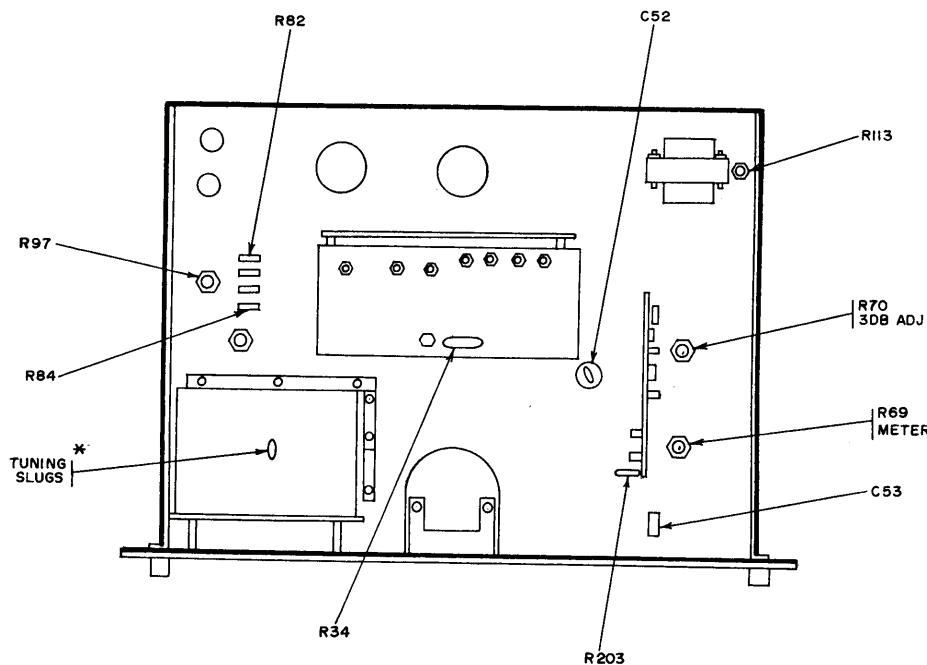
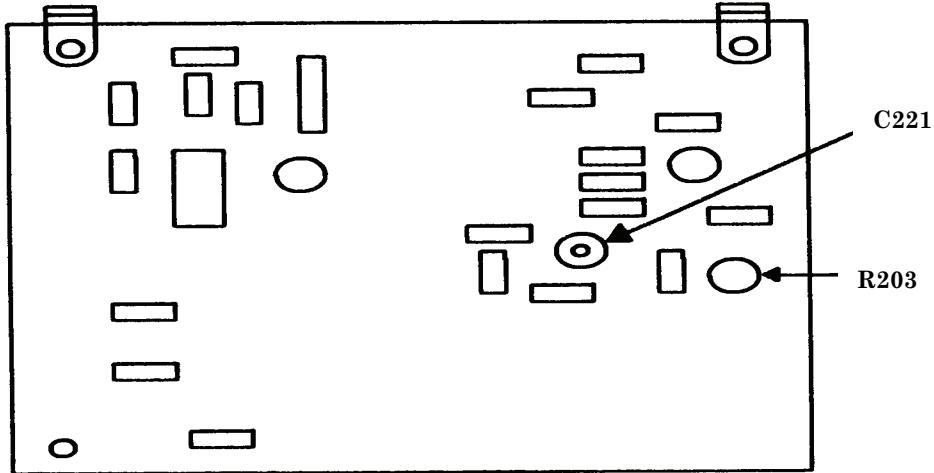

Figure 1. Test instrument, version A - top view.
Figure 2. Pulse generator assembly - adjustment locations.
a. Model Variations. There are two versions of SG-366A/U. The adjustments for version A are located on top view of the chassis. Version B and model 5070B are the same for calibration purposes, and adjustments are located on both top and bottom views. Some early models of model 5070B show different adjustment references for the same locations. These reference designations are not shown on the figures. Some adjustments for version B are located on the power supply assembly but are not related to the power supply function. Where adjustment locations are the same for both versions, they will be shown on version A, figure 1.
b. Adjustments to be reported are designated (R) at the end of the sentence in which they appear. When adjustments are in tables, the (R) follows the designated adjustment. Report only those adjustments made and designated with (R).
- (1) Adjust appropriate tuning slugs (fig. 1) as listed in (a) through (e) below:
- (1) Position controls as listed in (a) through (e) below:
- (2) Turn **RATE ADJ** control fully ccw. If frequency counter does not indicate 50 Hz or less, perform **b** below.
- (3) Set **PULSE RATE** switch to 500-5KC and **RATE ADJ** control fully cw. If frequency counter does not indicate 5 kHz or more, perform **b** below.
b. Adjustments. Adjust R203 (fig. 1 or 2) for 5 kHz indication on frequency counter (R).
- (1) Set **PULSE WIDTH** switch to **.1-1** and **WIDTH ADJ** control fully ccw.
- (2) Measure pulse width on frequency counter. If pulse width is not 0.1 μ s or less, perform **b** below.
- (3) Set **PULSE WIDTH** switch to **10-100** and **WIDTH ADJ** control fully cw.
- (4) Measure pulse width. If frequency counter does not indicate 100 μ s or more, perform **b** below.
b. Adjustments. Adjust C53 (fig. 1) for best in-tolerance condition in **a** (2) and (4) above (R).
- (1) Adjust R97 (fig. 1) or R14 (fig. 3) until oscilloscope indicates at least 1.5 V p-p (R).
- (2) Adjust R84 (fig. 1) or R21 (fig. 3) until oscilloscope indicates at least 3 V peak (R).
- (3) Adjust R82 (fig. 1) or R23 (fig. 3) until oscilloscope indicates at least 3 V peak (R).
- (1) Adjust C52 (fig. 1) or C221 (fig. 2) for best rise and fall times ≤ 10 ns (R).
- (2) Adjust R34 (fig. 1) for minimum spikes (R).
- (1) Adjust **RF OR PULSE LEVEL** control until oscilloscope indicates 1.5 V p-p.
- (2) Adjust R69 METER (fig. 1) or R31 (fig. 3) until TI meter indicates 0.5 V (R).
- (3) Adjust **RF OR PULSE LEVEL** control until oscilloscope indicates 1.05 V p-p.
- (4) Adjust R70 3dB ADJ (fig. 1) or R29 (fig. 3) until TI meter indicates -3 dB (R).
- (5) Repeat **a** (3) and (4) above.
b. Adjustments. Adjust R113 (fig. 1) until multimeter indicates 20.0 V dc (R).